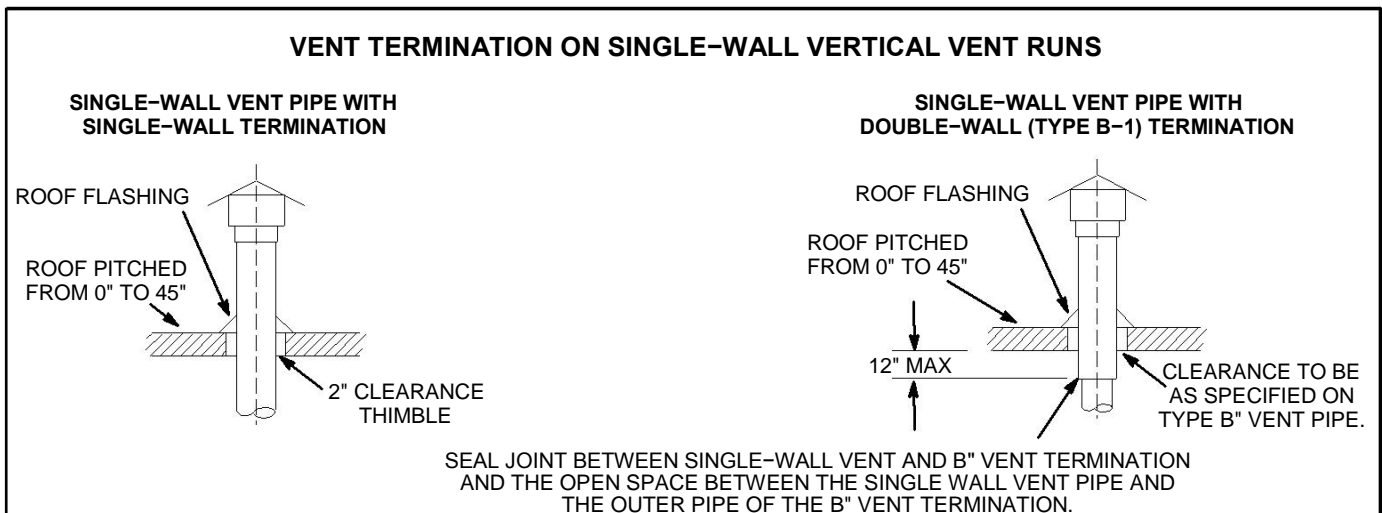

FIGURE 2
- 1 - All SEP unit heaters are to be used with NFPA- or ANSI-approved chimneys or U.L.-listed type B-1 gas vents where applicable, as well as the modifications and limitations listed in figure 2. Seal single-wall vent material according to **General Recommendations and Requirements section**.